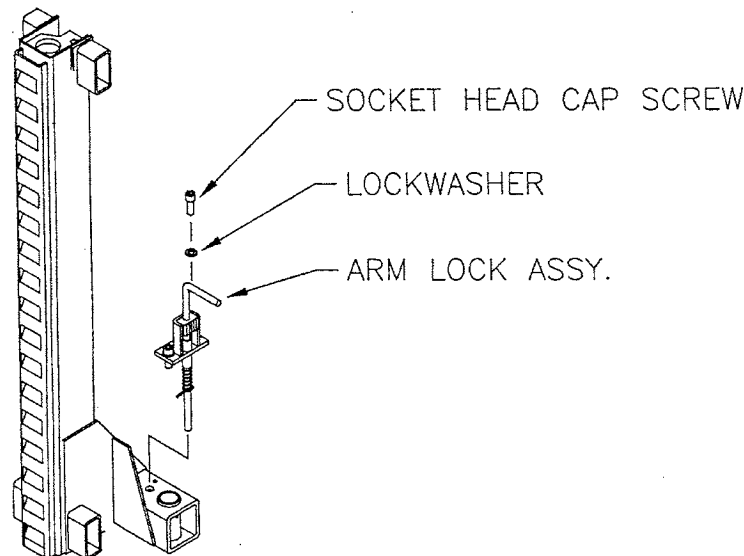

Figure 8 – Arm Lock Installation
Using two (2) 3/8"-16UNC x 1" LG. socket head cap screws, and two (2) 3/8" ID lockwashers, install the arm lock assemblies as shown in **Figure 8**. Before tightening completely, make sure that the arm lock has full contact with the arm lock gear by pushing it firmly against the arm.